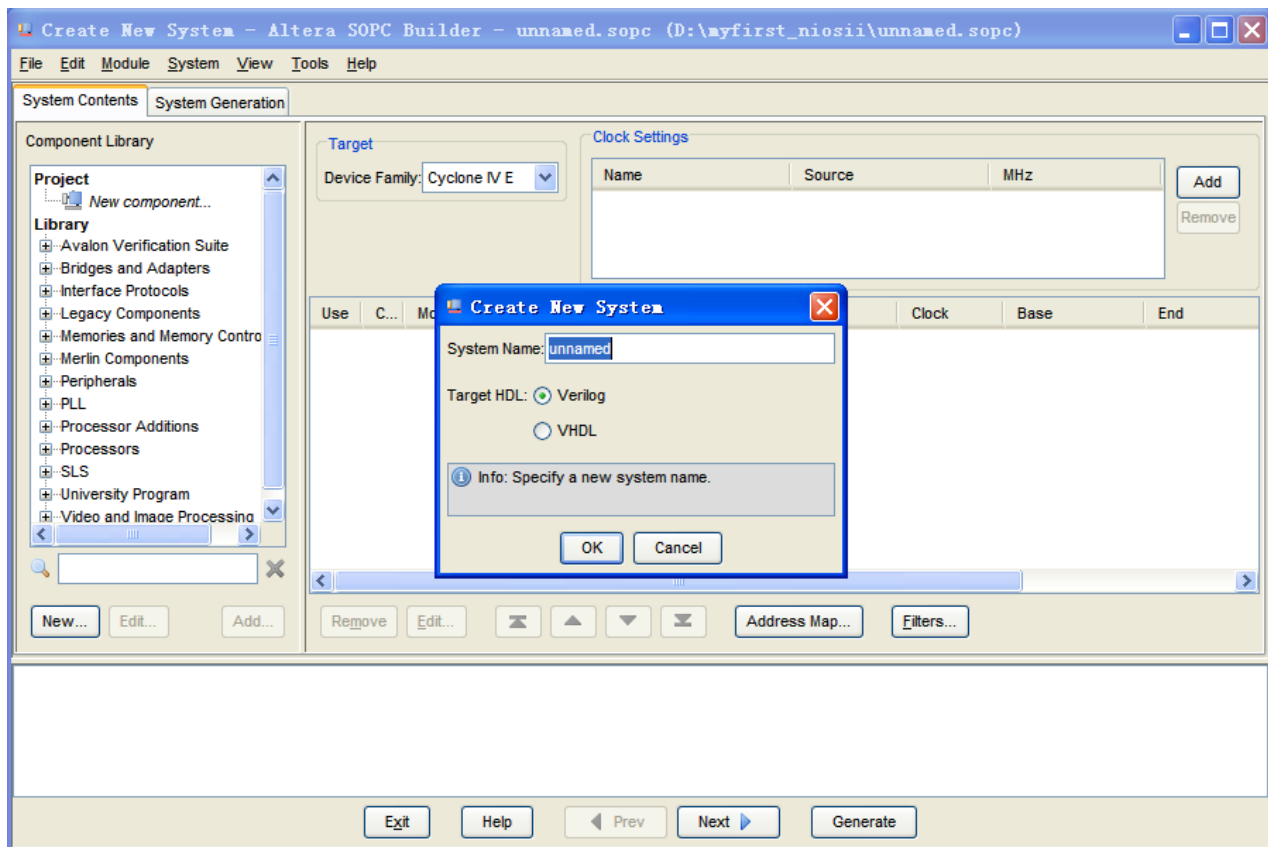
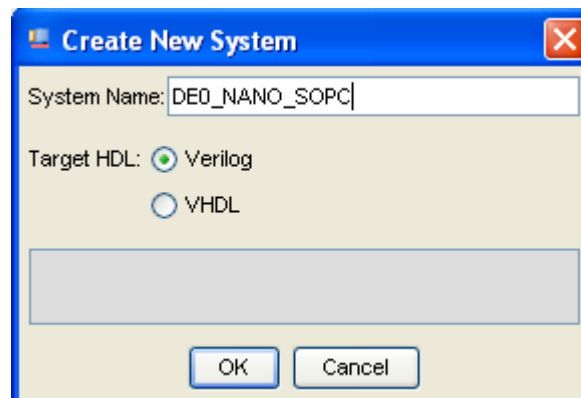
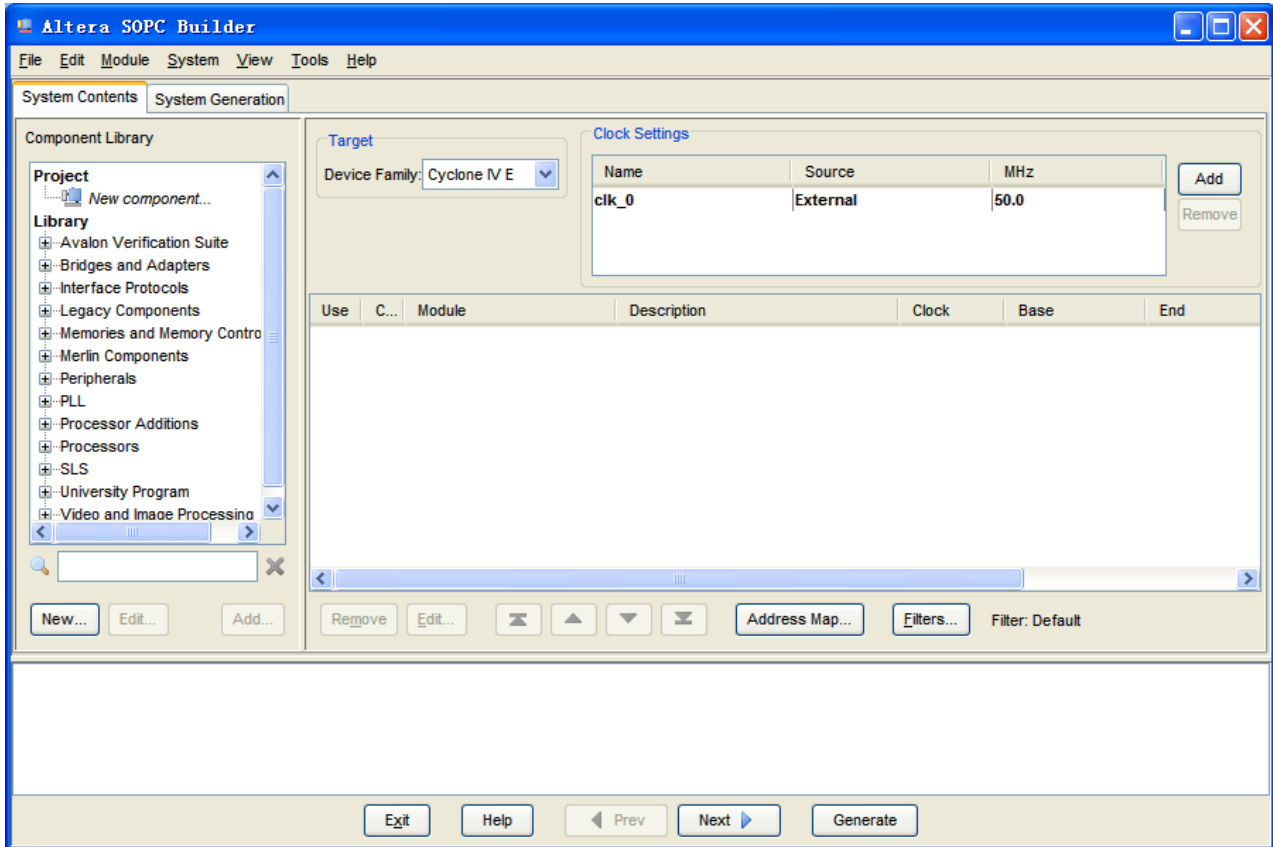

Figure 7-10 Create New SOPC System [0]
Figure 7-11 Create New System [1]
Figure 7-12 Create New System[2]
6. Rename System Name as shown in **Figure 7-10** and **Figure 7-11**. Click **OK** and you will see a window as shown in **Figure 7-12**.